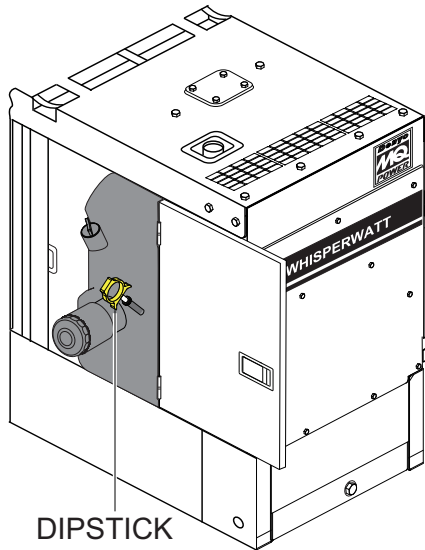

Figure 27. Engine Oil Dipstick
2. Remove the **engine oil dipstick** from its holder (Figure 27) and wipe it clean.